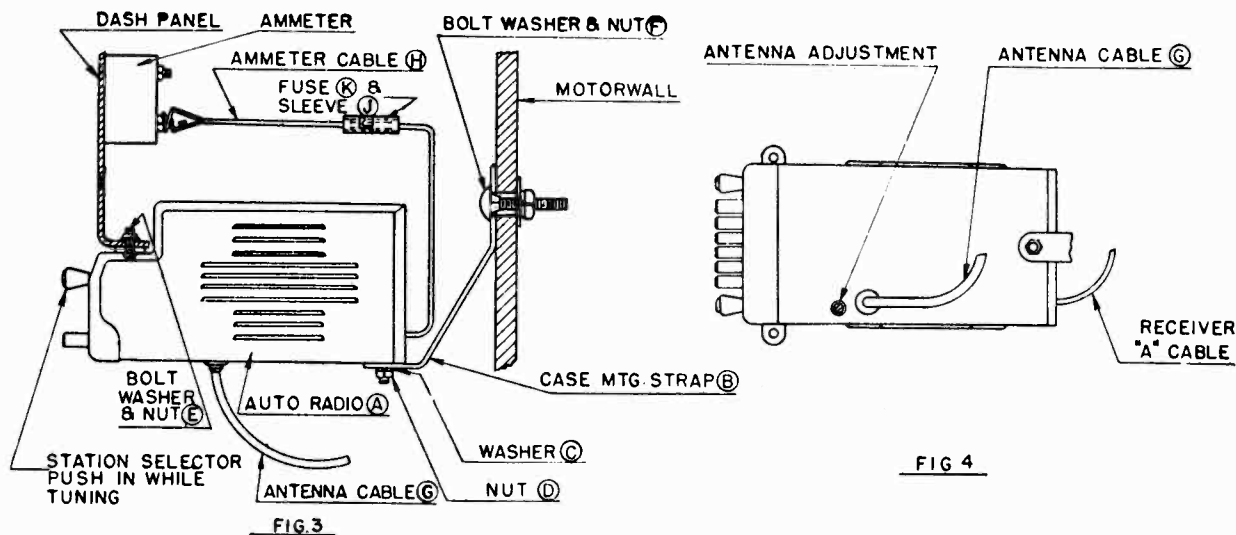

FIG 4
The antenna adjustment control is located close to the antenna cable receptacle as shown in Figure 4. To make the adjustment first, remove plug button from bottom of case by inserting a screwdriver between case and plug button, then tune in a weak station with full volume at or very close to 600 kilocycles (60) on the dial. Second, insert a small screwdriver into the antenna adjustment screw shown in Figure 4 and turn the screwdriver either to the left or right until the volume of the station is at its maximum point. While adjusting the antenna adjustment screw it is advisable to vary the station selector knob a degree or two to obtain the best adjustment. Now insert plug button into case. The receiver is now balanced and no further radio electrical adjustments are necessary.